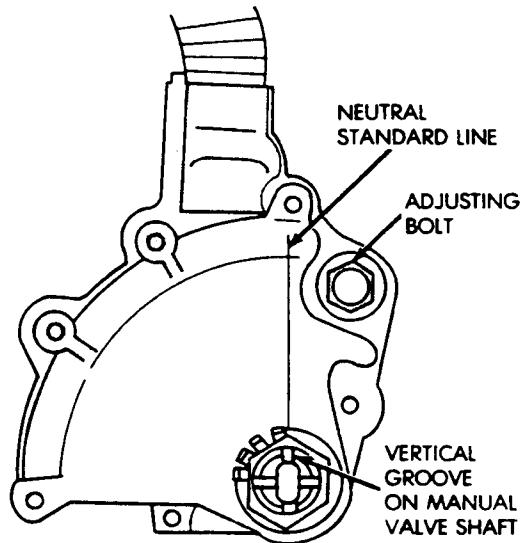

Fig. 5 Neutral Switch Adjustment
- Rotate switch to align neutral standard line with vertical groove on manual valve shaft (Fig. 5).